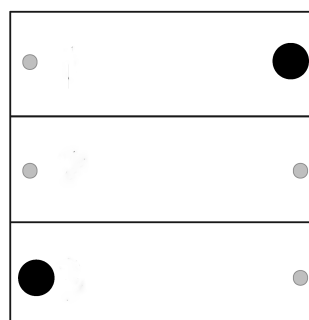

Figure 7: Activating programming mode for scene buttons
- Press the top right and bottom left buttons simultaneously for 4 seconds (Figure 7).
- Briefly press the top right and bottom left buttons simultaneously (Bild 7).